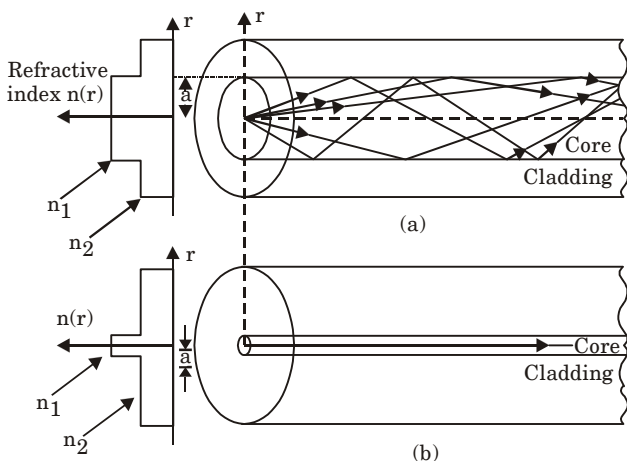

Fig. 10. The refractive index profile and transmission in step index fibers : (a) multimode step index fiber ; (b) single-mode step index fiber.
- The Fig. 10 shows a multimode step index fiber and single mode step index fiber. In multimode step index fiber core diameter is around $50 \mu\text{m}$ or greater, which is large enough to allow the propagation of many modes within the fiber whereas single mode step index fiber has a very fine thin core, so that only one mode can be propagated.